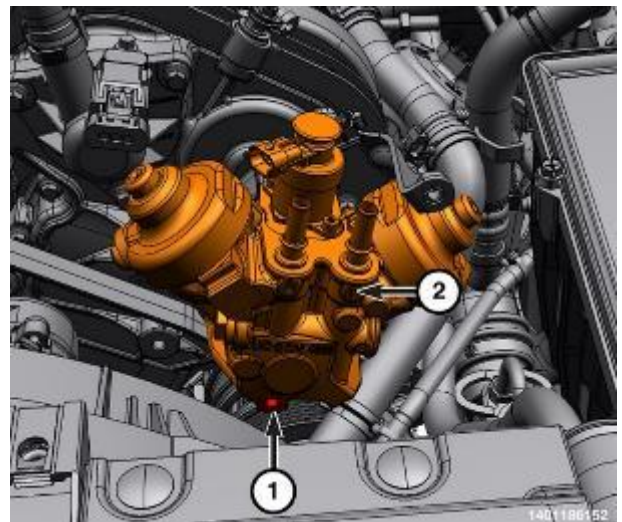

Figure 196 – HPFP Lower Bolt
- 40. Install the pump to the engine using the pins as a guide. Install the lower fuel injection pump bolt (1) and hand tighten the bolt (Figure 196).